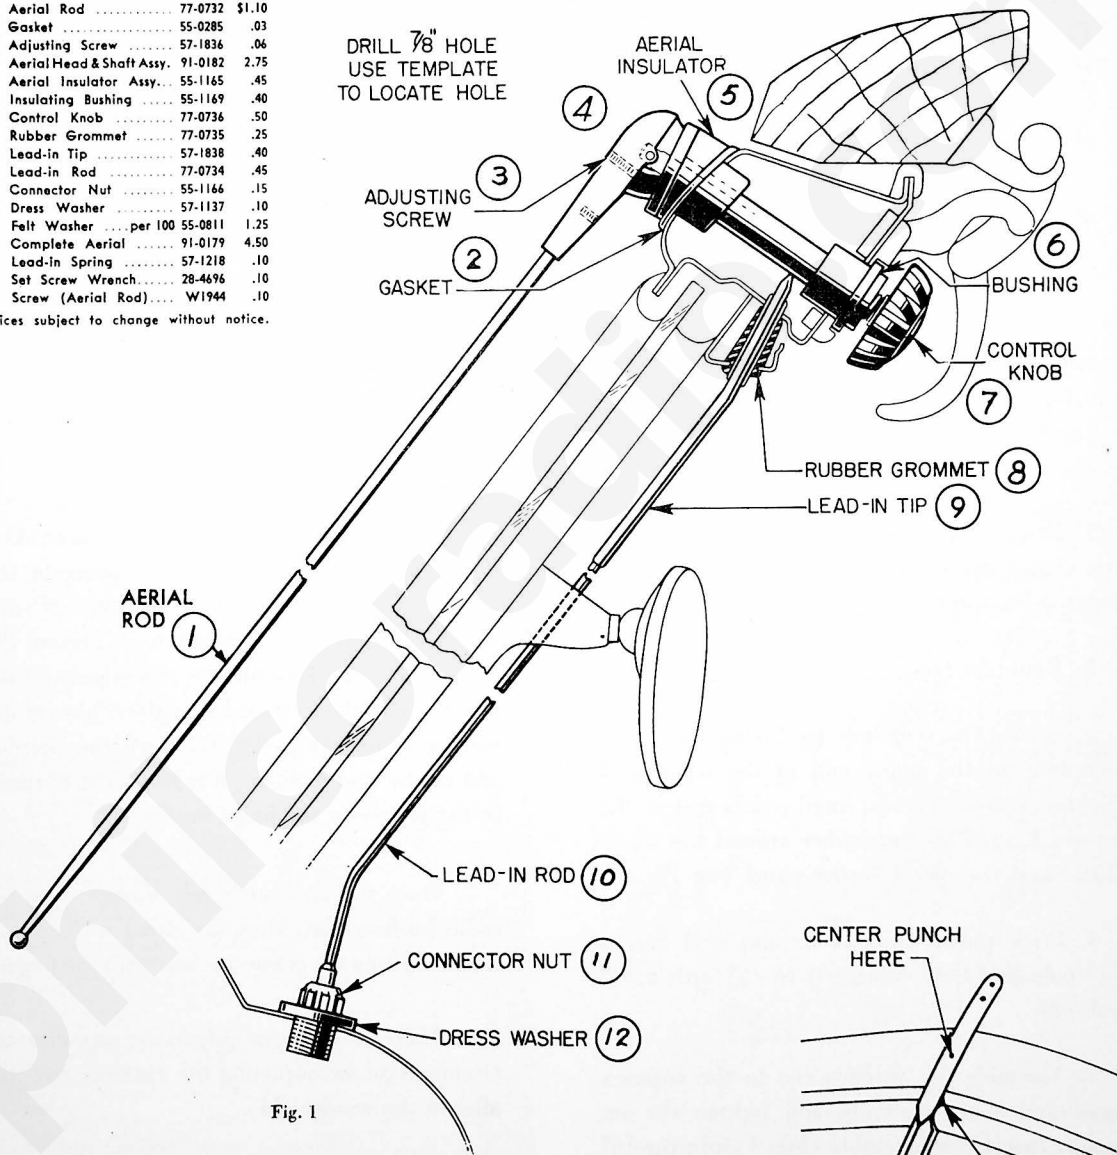

Fig. 1
5. Assemble the antenna rod to the antenna head and shaft assembly and tighten the set screw. Insert this assembly (Fig. 1) into the $\frac{7}{8}$ " hole and tighten on the bakelite bushing. Next place the knob on the shaft and tighten the set screw.
6. Remove the rear vision mirror assembly. Assemble the antenna extension spring in the short tubular extension of the lead-in and then telescope the smaller section into it. Slip on the connector nut. Assemble the rear vision mirror bracket over the lead-in. Insert the rubber grommet as shown (Fig. 1) and force the pointed end of the lead-in through it so that it bottoms in the groove in the brass bushing.